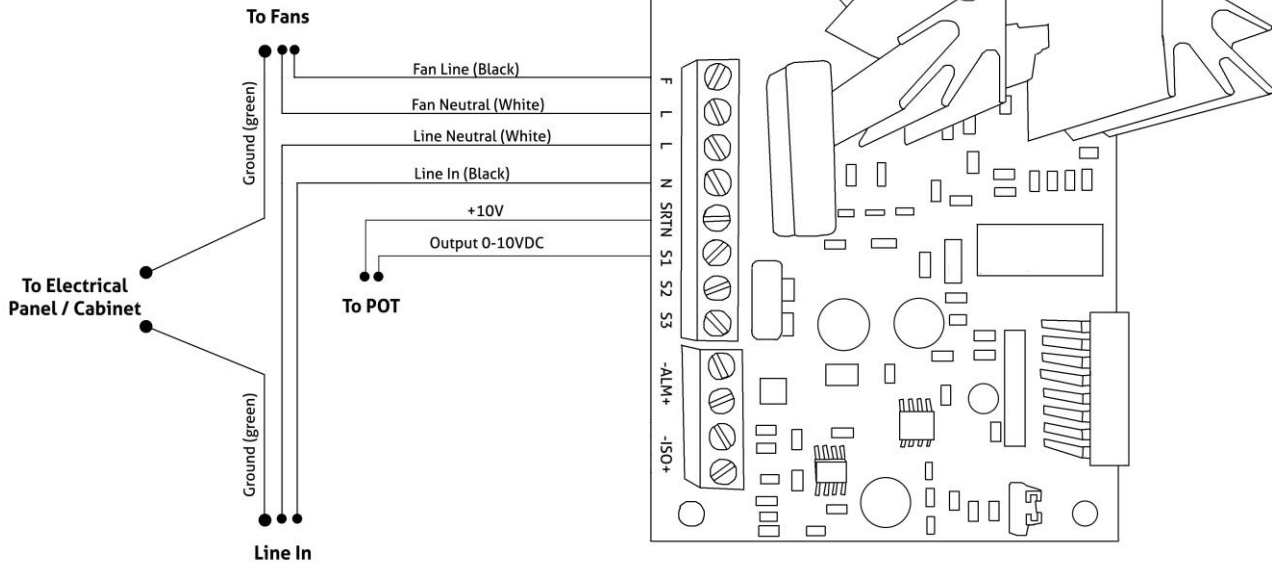

Figure 2
- Electrical connection should be made according to the wiring diagram. (see *Figure 2*)